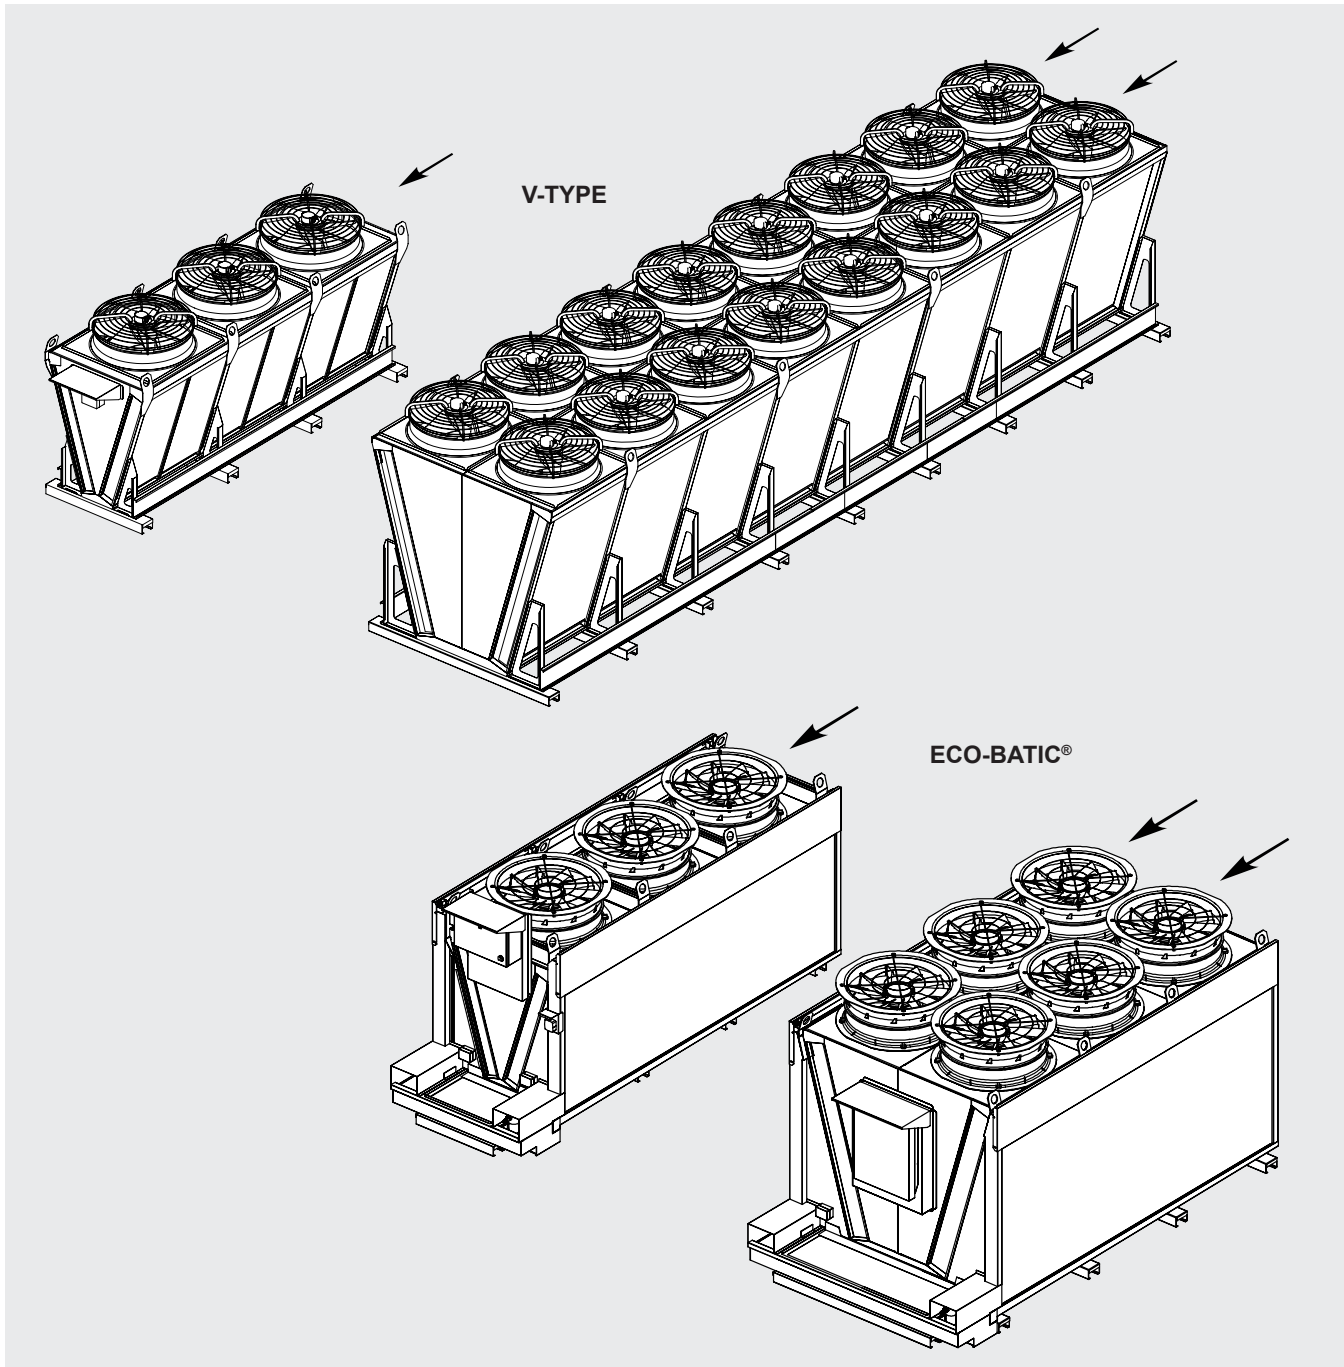

Figure 1
3.1 V-Type models, condensers, gas coolers, dry coolers, and Eco-Batic® - AV series models can be single or double-banked, i.e. they can have one or two rows of fans. See Figure 1.